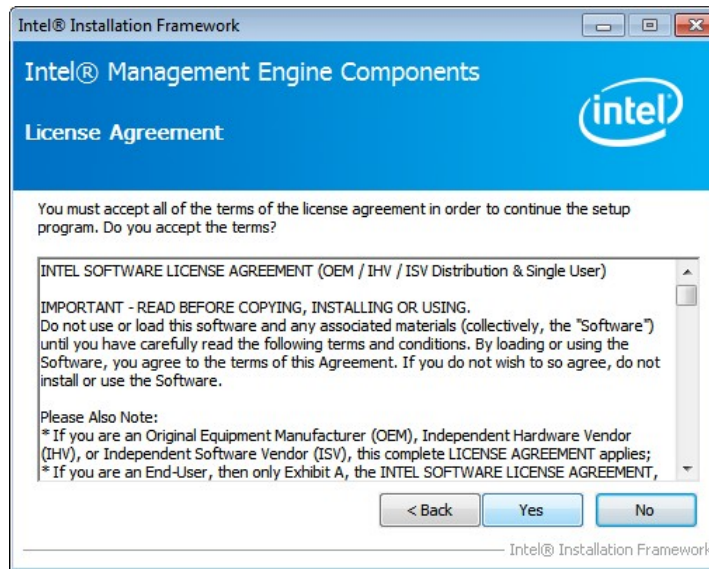

Figure 6-28: Intel® ME Driver License Agreement
**Step 7:** The license agreement in Figure 6-28 appears.